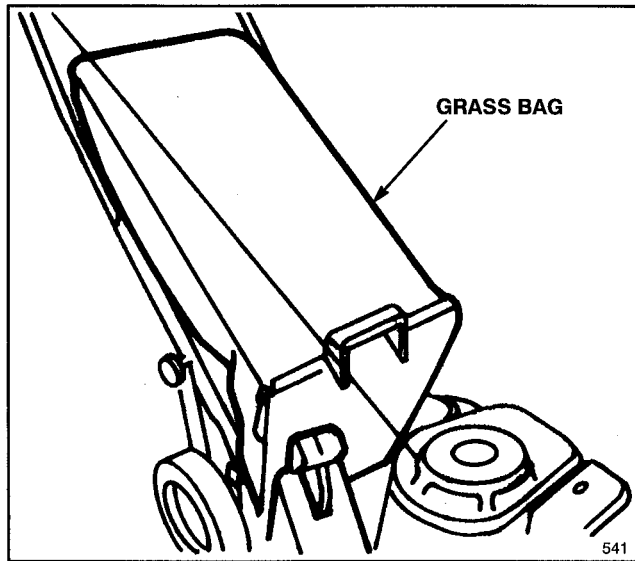

Figure 20
**1. Rear Bagging Kit, Model No. 59279**—Install discharge tunnel and rear mounting grass bag to convert the Recycler®II mower to a rear bagging mower (Fig. 20). Includes discharge tunnel plug.